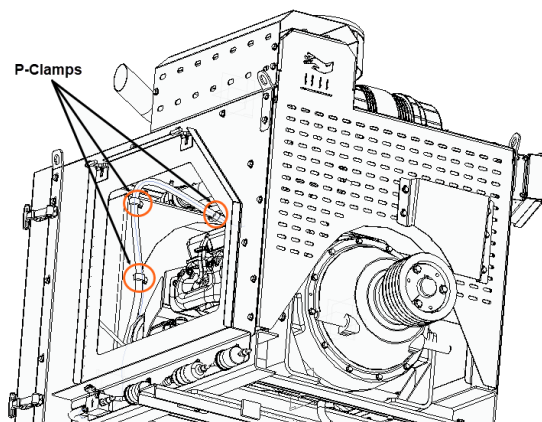

Figure 6
- 11) Replace all three (3) P-clamps on the insulated tube. See Figure 6.